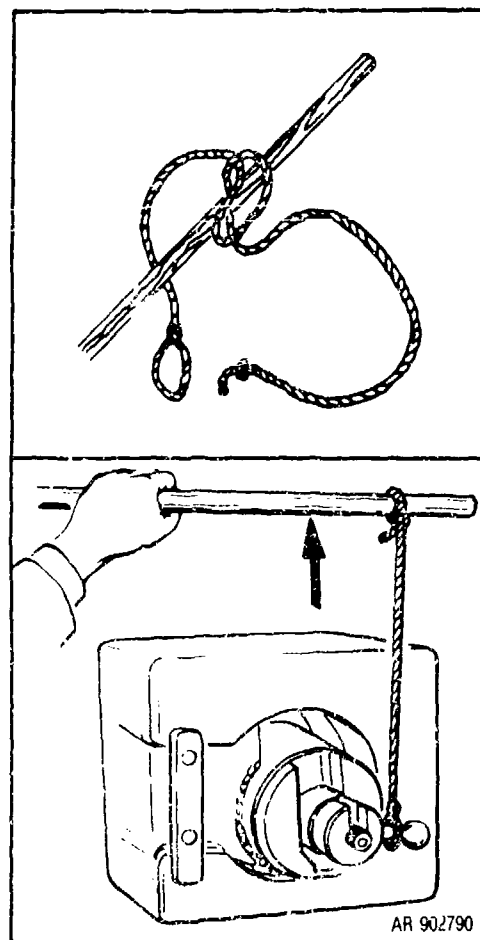

Figure 9-14. Hangfire device.
(2) *Hangfire.* A hangfire (fig 9-14) is a delay in the functioning of a propelling charge at the time of firing. The amount of delay is unpredictable but, in most cases, will fall within the range of a split second to several minutes. A hangfire cannot immediately be distinguished from a misfire, and therefore, it may be mistaken for a misfire. In case of a misfire, perform the following steps in sequence: